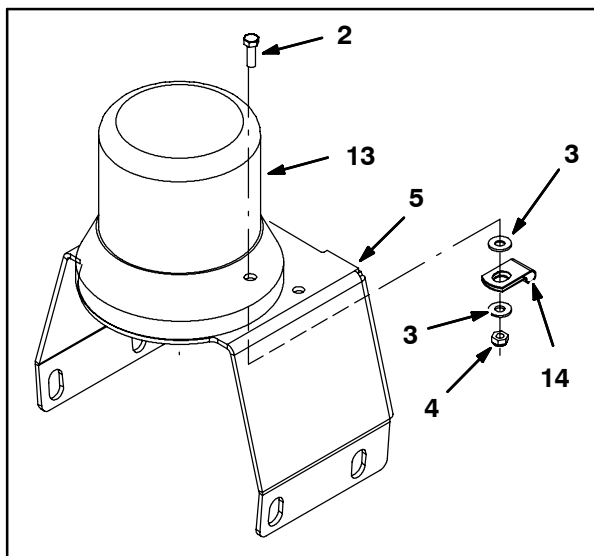

FIG. 3
3. Route the wires from the strobe light (13) through a cable clamp (9) and use a hex screw (2), two flat washers (3), and hex nut (4) to install the cable clamp underneath the lamp support bracket (5) and completely secure the light to the bracket. Refer to Fig. 3.